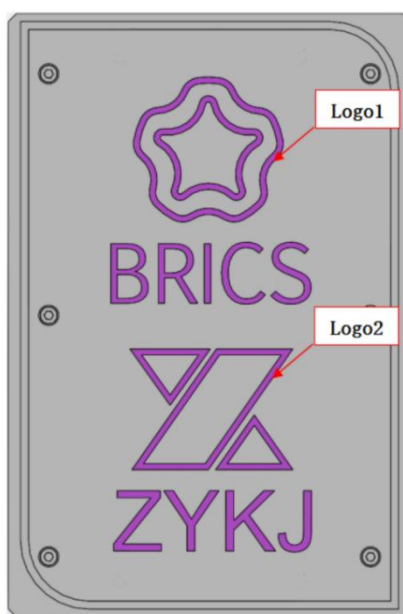

Figure 8. Track pattern
Task A2: automatically install the brush, draw the track pattern as shown in Figure 8, and automatically uninstall the brush
- 2) Automatically install the brush, draw the track pattern as shown in Figure 8 (purple), automatically unload the brush, there can be appropriate delay in the middle, and the whole process needs to be completed continuously in one program;